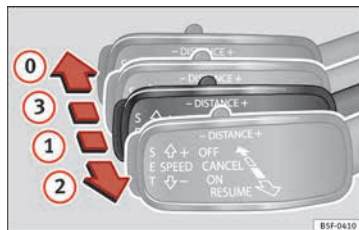

Fig. 198 On the left of the steering column: third lever for operating the Adaptive Cruise Control.
The ACC can be activated again by moving the lever to position ② » Fig. 198.